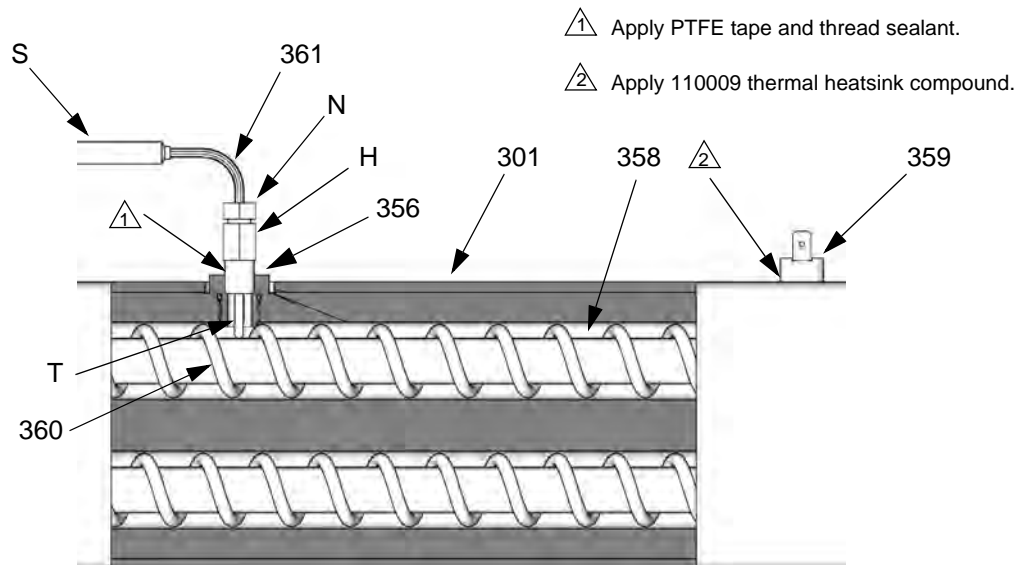

FIG. 8. Thermocouple
7. See FIG. 8. Loosen ferrule nut (N). Remove thermocouple (361) from heater housing (351), then remove thermocouple housing (H). Do not remove the thermocouple adapter (356) unless necessary. If adapter must be removed, ensure that mixer (360) is out of the way when replacing the adapter.
8. Replace thermocouple, FIG. 8.
- a. Remove protective tape from thermocouple tip (T).
- b. Apply PTFE tape and thread sealant to male threads and tighten thermocouple housing (H) into adapter (356).
- c. Push in thermocouple (361) so tip (T) contacts heater element (358).
- d. Holding thermocouple (T) against heater element, tighten ferrule nut (N) 1/4 turn past tight.
9. Route wires (S) into cabinet and thread into bundle as before. Reconnect wires to board.
11. Turn on heaters A and B simultaneously to test. Temperatures should rise at same rate. If one heater is low, loosen ferrule nut (N) and tighten thermocouple housing (H) to ensure thermocouple tip (T) contacts element (358).
5. Disconnect one leadwire from over-temperature switch (359), FIG. 8. Test across switch with ohmmeter. Resistance must be approximately 0 ohms.
6. If switch fails test, remove wires and screws. Discard failed switch. Apply thermal compound 110009, install new switch in same location on housing (351), and secure with screws (311). Reconnect wires.